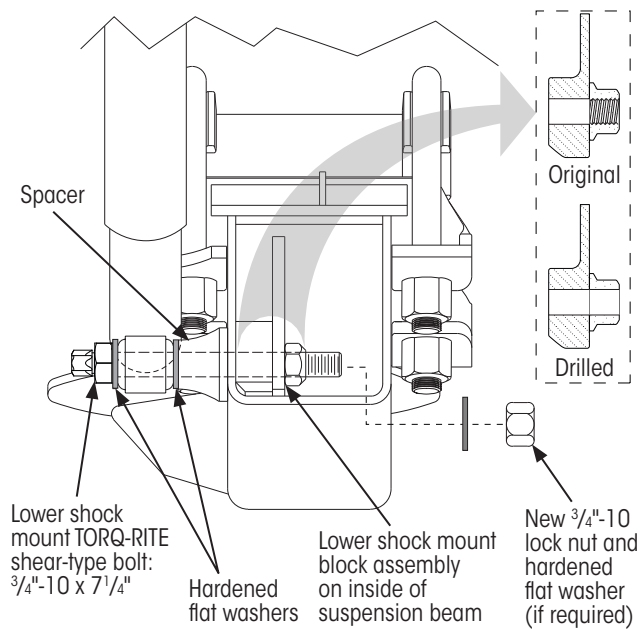
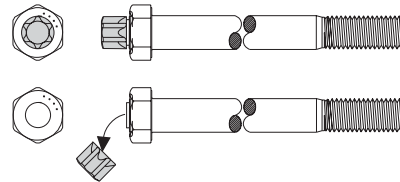

Figure 1: Lower shock bolt assembly
Figure 2: TORQ-RITE® shear-type hex-head bolt
Use this procedure to install the lower shock mount hardware (Figure 1).
1. **Inspect** threads on the existing lower shock bolt and lower shock mount block assembly (Figure 1). **If the threads are undamaged, skip to Step 3.**
2. **Using** a $\frac{3}{4}$ -inch drill bit, **drill out** the broken bolt or threads in the original nut (Figure 1).
3. **Assemble** the new $\frac{3}{4}$ "-10 x $7\frac{1}{4}$ " TORQ-RITE shear-type hex-head bolt (Figure 2) onto the shock with two hardened flat washers and spacer as shown in (Figure 1). New fastener hardware is supplied with the service parts kit.
6. **Reaching** through the rear of the suspension beam, **slide** the third hardened flat washer (supplied with the service parts kit) over the threads of the lower shock bolt (Figure 1).
9. Using a Torx E20 $\frac{3}{4}$ -inch drive socket and $\frac{3}{4}$ -inch impact wrench, tighten the TORQ-RITE shear-type hex-head bolt until the shear head feature separates from the bolt head as shown in Figure 2. This will occur at 225 ± 10 ft. lbs. (300 ± 10 Nm).